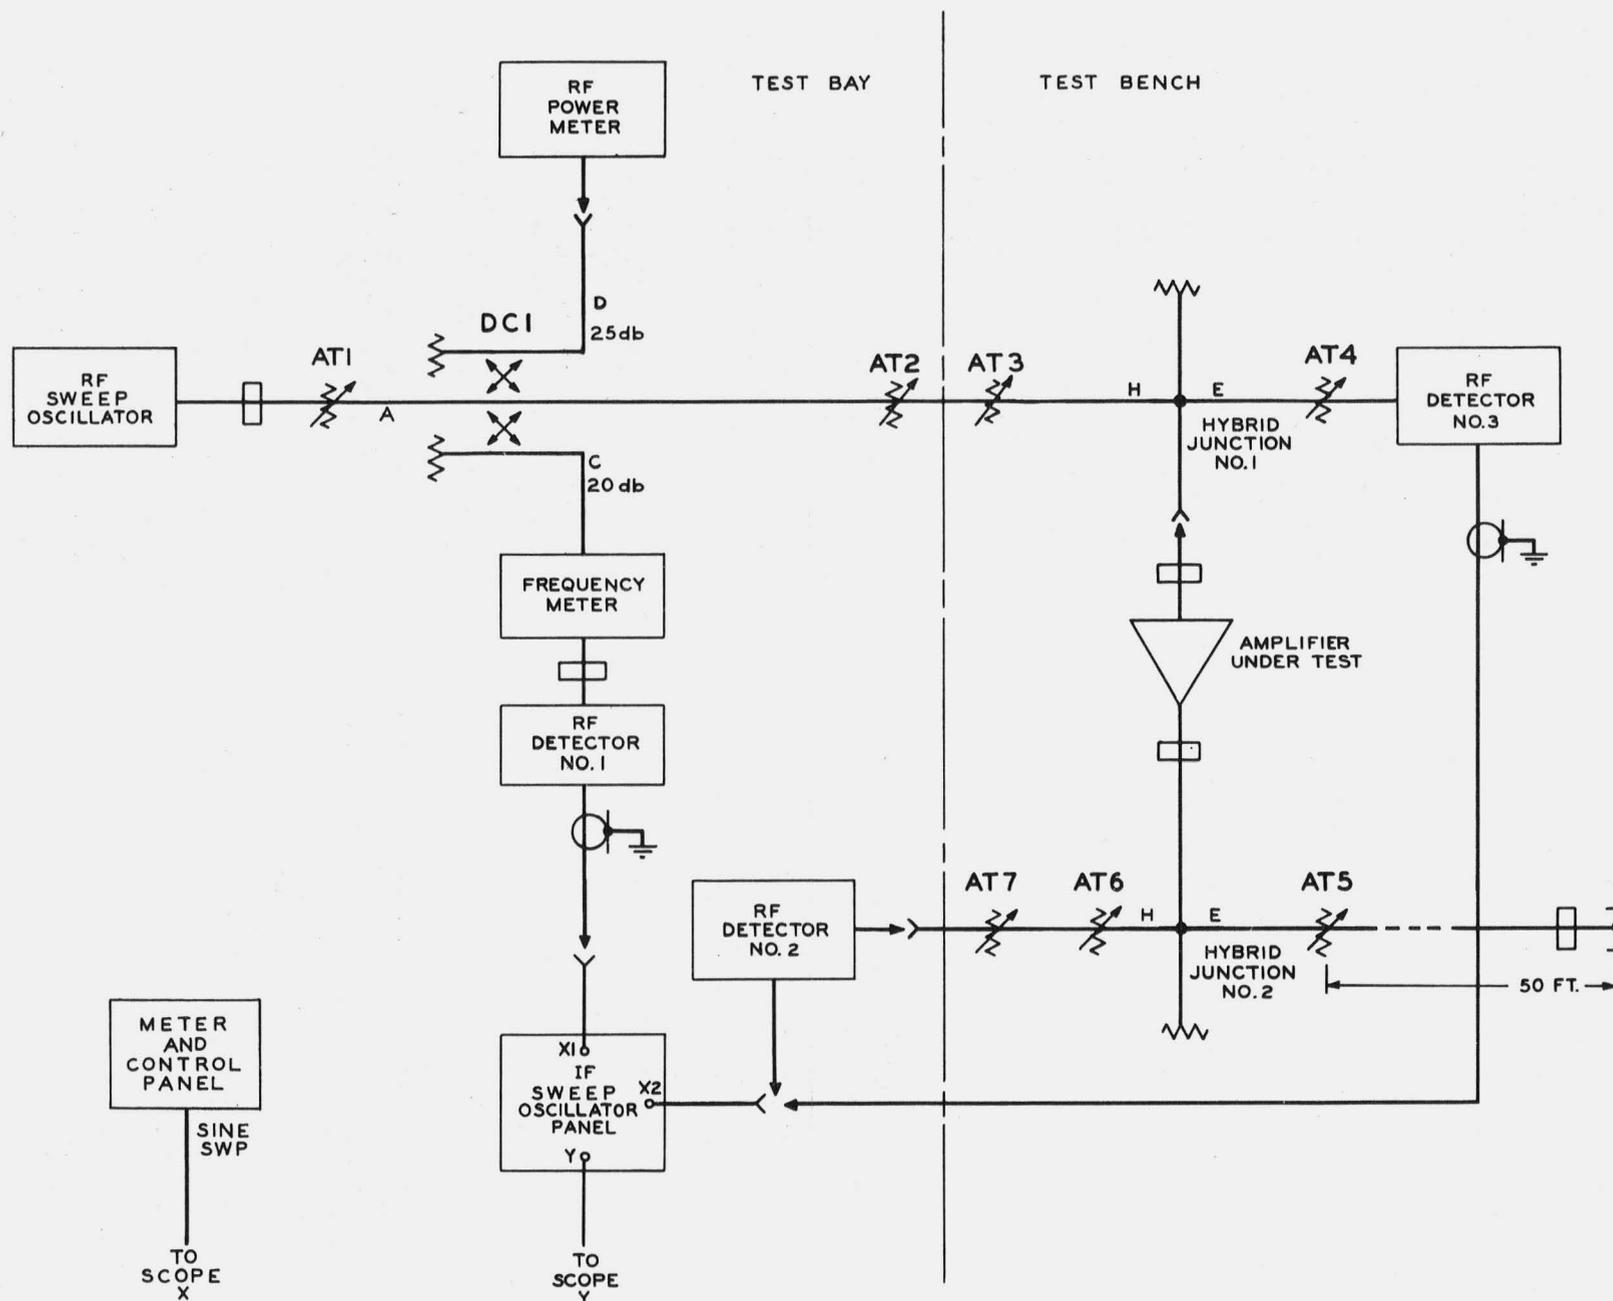

Fig. 20 - General Test Arrangements for Transmitter Amplifier Measurements
9.03 The general test setup is shown in Fig. 20.
- (1) Connect power and air to the amplifier as described in paragraph 9.04.
- (2) Set the various attenuators in Fig. 20 to the following positions, and connect detector No. 3 to X2: